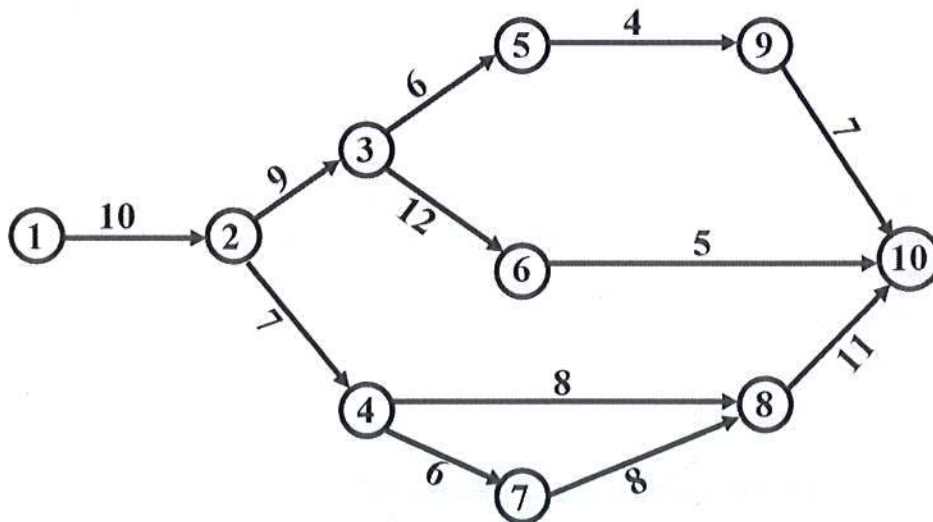

Figure 1
2. The network of a bridge construction project is shown in **Figure 1**, along with the duration of each activity. Analyze the network to determine the Earliest and Latest Event Time of each activity. [20]
3. (i) Analyze the network shown in **Figure 1** to compute the followings:
- Use Stiffness Method (neglect axial deformations) to calculate rotation of joint *a* and *c* of the frame *abcd* loaded as shown in Fig.1, if the joint *c* is a circular foundation of radius 4.5 ft on the surface of subsoil (half-space) with shear wave velocity (v_s) equals to 900 ft/sec